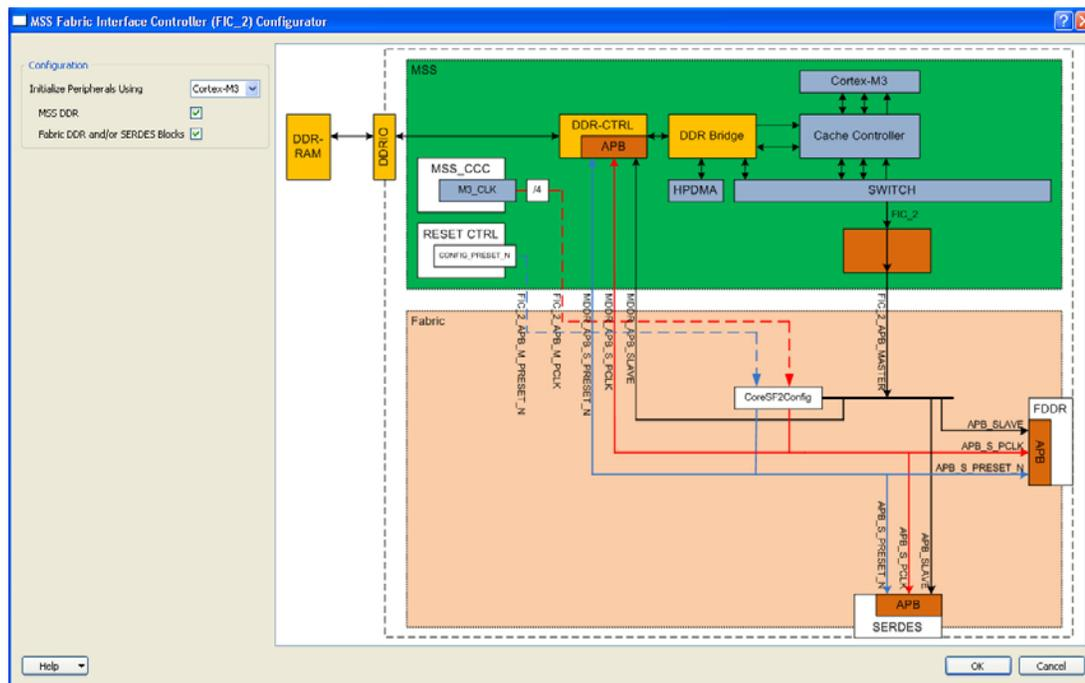

Figure 1-6 • FIC_2 Configurator Overview
1. Open the FIC_2 configurator dialog box (Figure 1-6) from the MSS configurator.